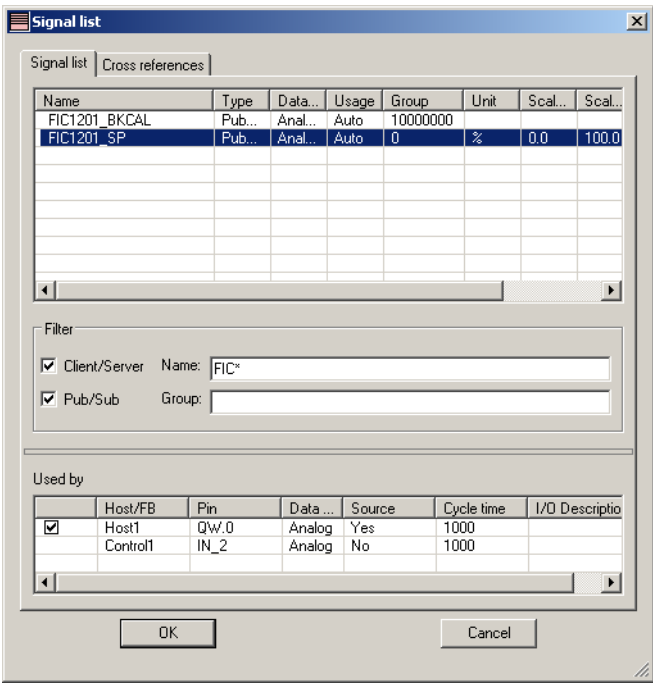

Figure 173. Example for signal usage configuration
- c. Check the Host by which the signal shall be used. If the communication direction is IEC61131 -> FF, check, whether the source parameter is set to “yes”. Refer to Figure 173